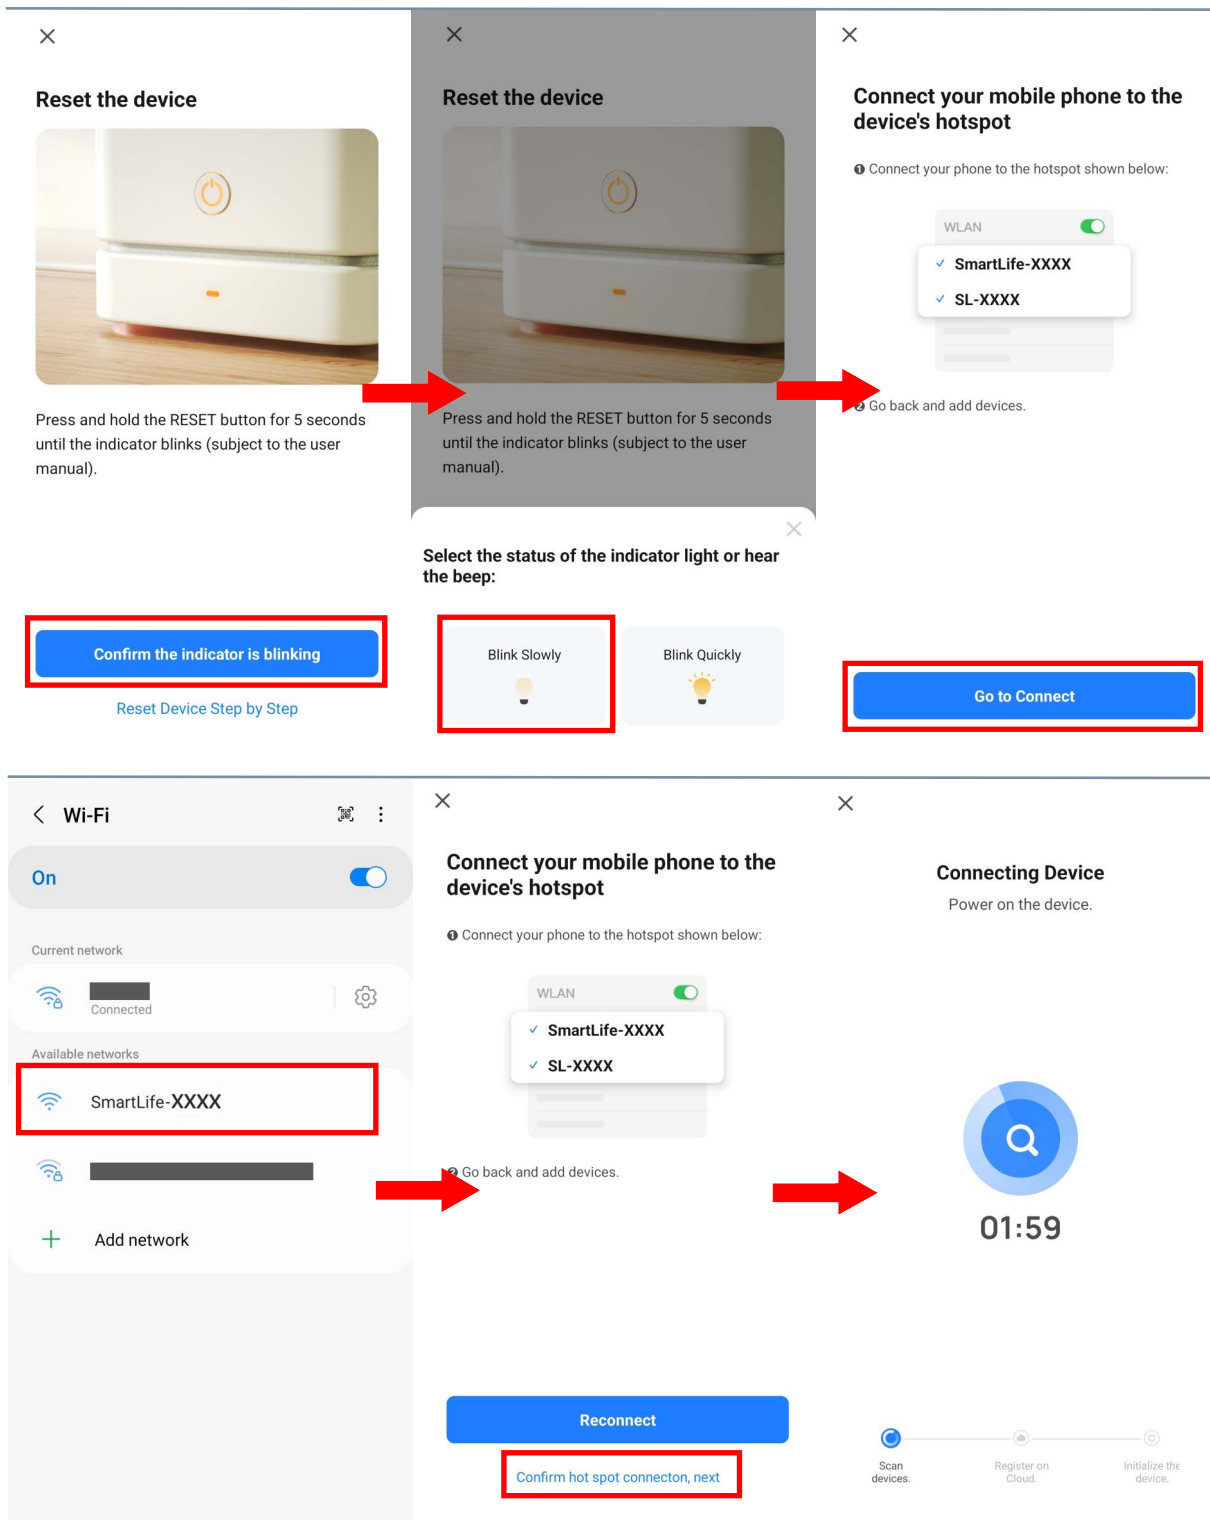

Figure 7: Connecting the heater to the app using AP Mode
- b. The  symbol flashes slowly – once per second. This means the heater is in AP mode. In this mode, your device uses a WiFi hotspot to connect. See **Figure 7**.